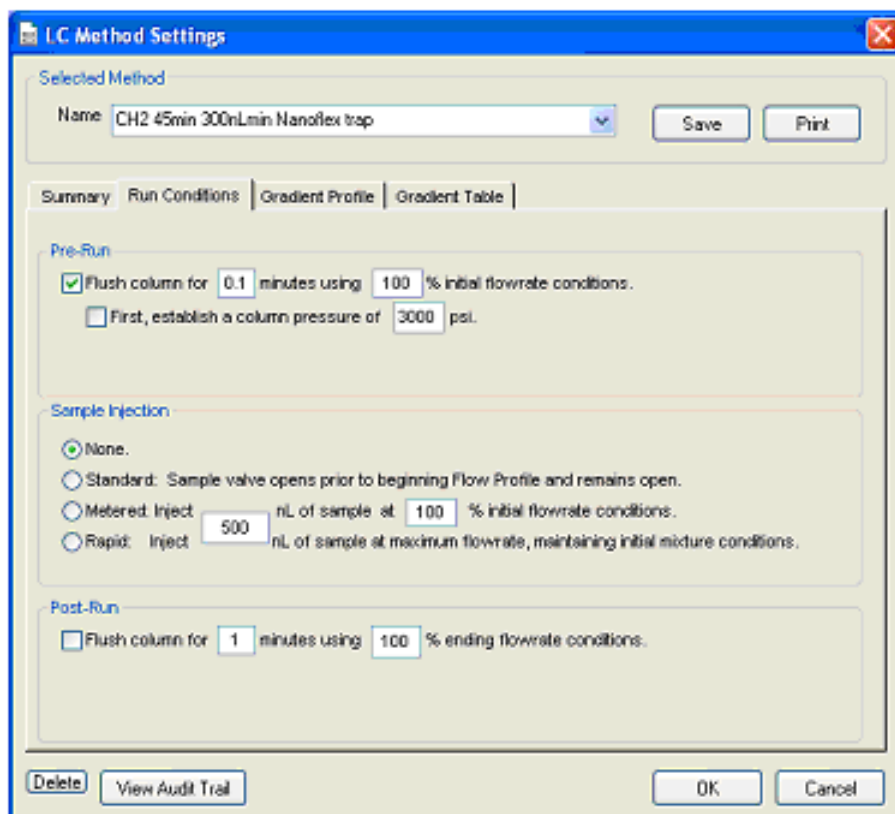

Figure 1-17 LC Method Settings dialog—Run Conditions tab
5. On the **Run Conditions** tab, specify the method as shown in Figure 1-17.